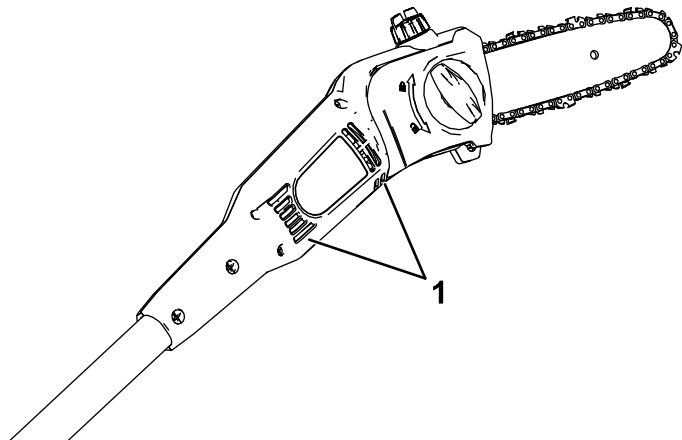

Figure 8
2. Ensure that the vents on the pole saw are free from dust and debris (Figure 8).